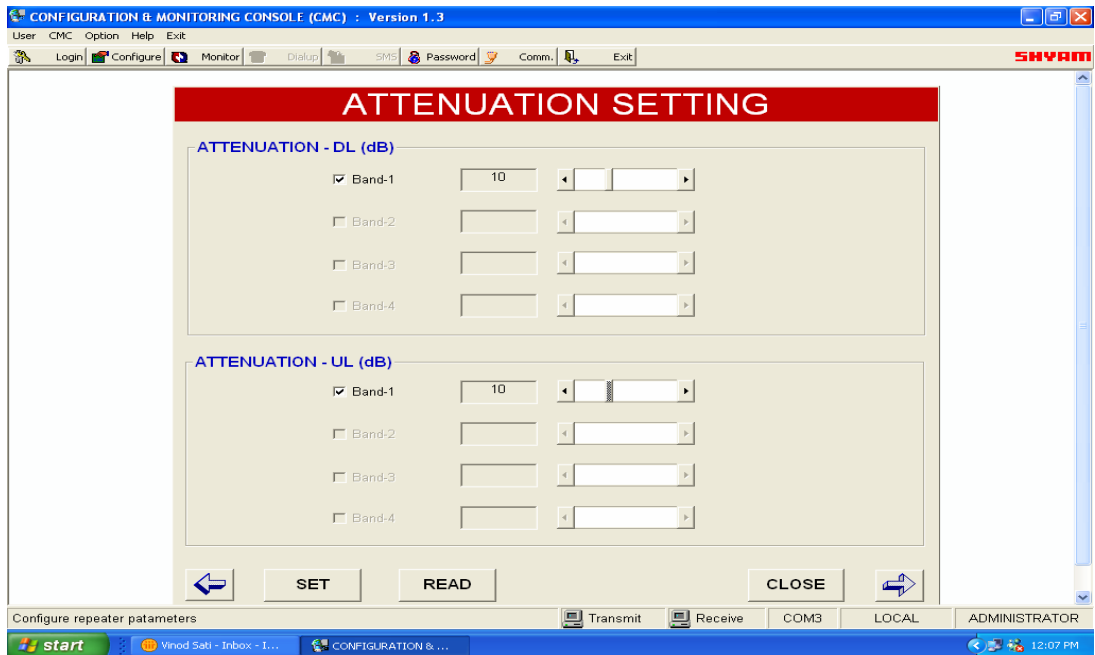

Figure 10: Attenuation Settings
h) Attenuation Settings (Figure 10)